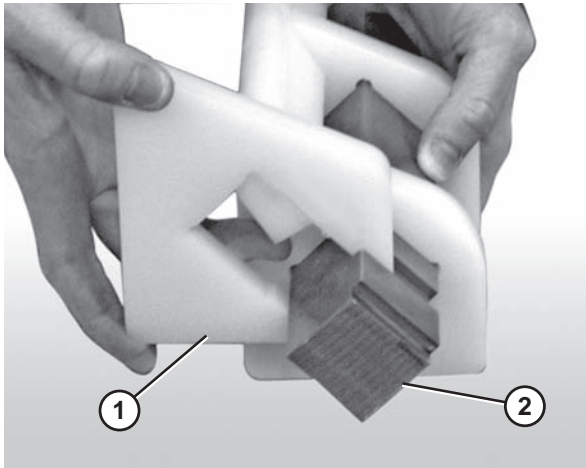

Figure 69
3. Attach the nose bar tracking pucks (Figure 69, item 1) to the nose bar drive post (Figure 69, item 2).